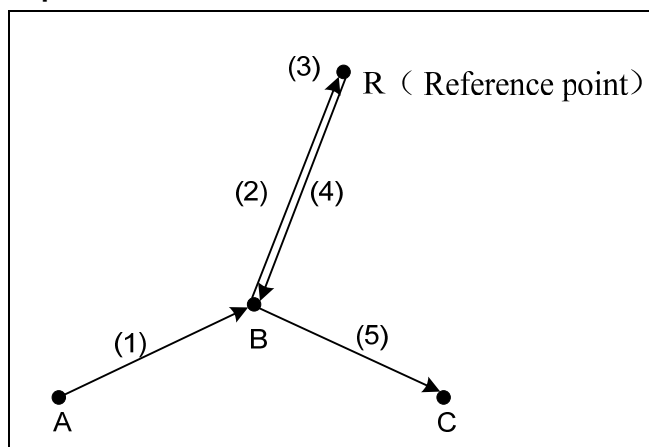

Fig. 4-3-1-1
- 1 The action of the G28 block can be analyzed as following: (refer to Fig.4-3-1-1):
- (1) Positioning to the intermediate point of the specified axis from the current position (point A→point B) at a traverse speed.
- (2) Positioning to the reference point from the intermediate point (point B →point R) at a traverse speed.